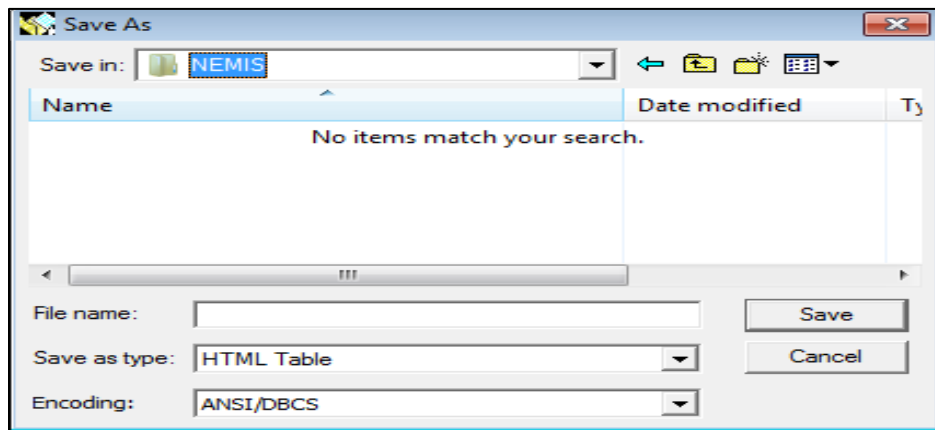

Figure 14-18: Save As HTML Table
- b. In the Save as type field, click the drop-down list. Select "HTML Table" (Figure 14-18).